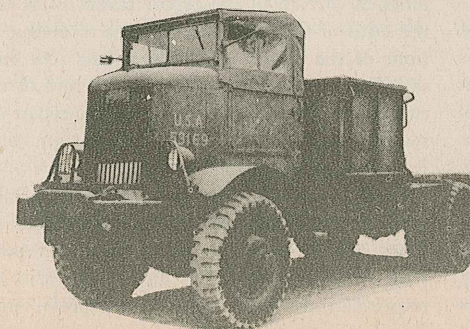

FIG. 4. 5-TON, 4X4, PONTON TRACTOR
*The 5-6-ton, 4 x 4, tractor-truck.*—This vehicle's semitrailers carry various bulky loads such as the Corps of Engineers' topographical unit and ponton trailer unit. The tractor is shown in Fig. 4.